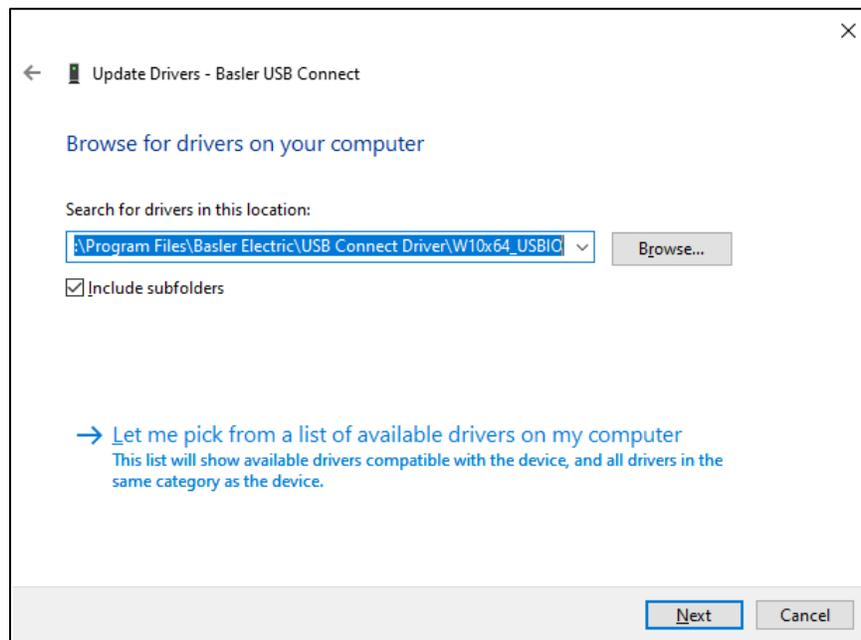

Figure 9-5. Update Driver Software - DGC-2020HD
Step 5. Click Browse and navigate to C:\Program Files\Basler Electric\USB Connect Driver\W10x64_USBIO. Click Next. See Figure 9-5.